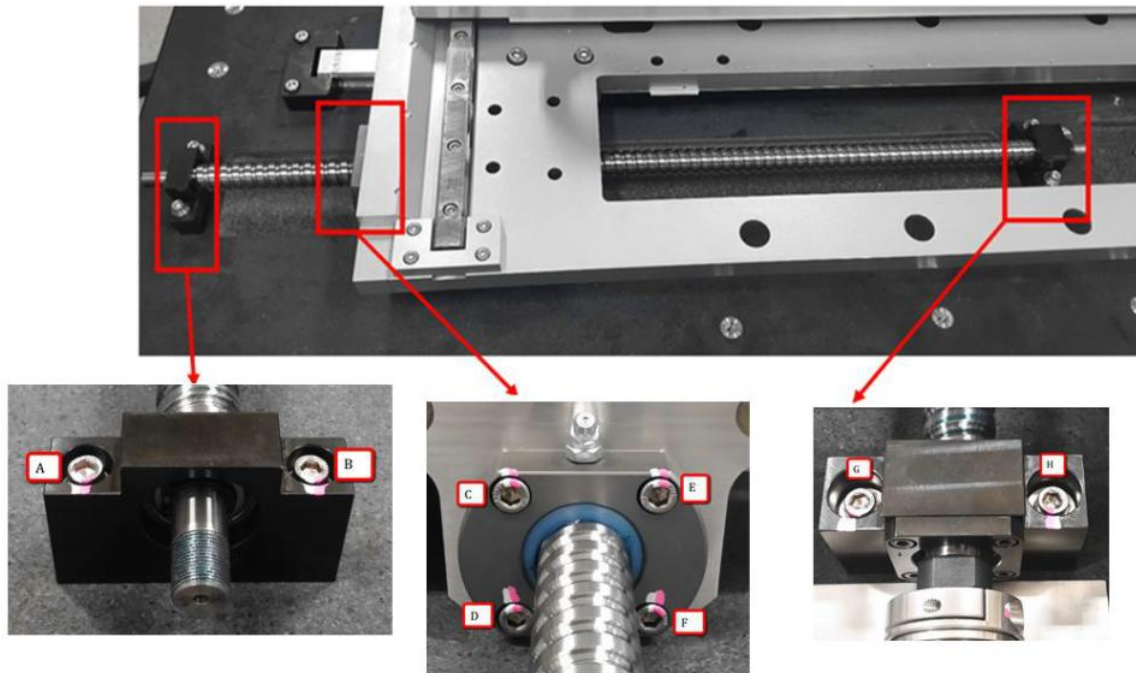

Figure 1 Y-Axis Ball Screw
1. Loosen the bearing the Bearing support with M6 Allen Key at “A” & “B” (Note: DO NOT TIGHTEN) as shown in Figure 1.
2. Loosen the Bearing support, Fixed round at M5 Allen Key at “G” & “H”. (Note: DO NOT TIGHTHEN) as shown in Figure 1.
3. Loosen the screw at round bearing with M6 Allen Key at “C” to “F”. (Note: DO NOT TIGHTEN) as shown in Figure 1.